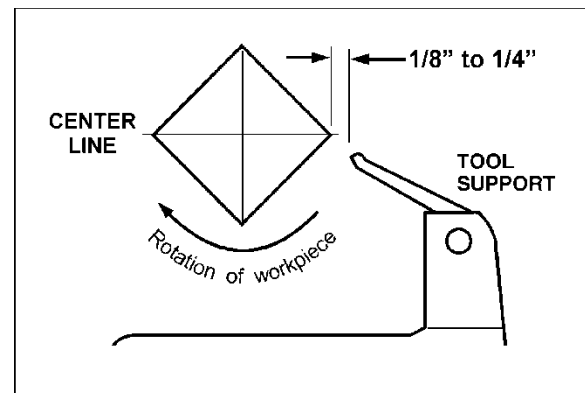

Figure 21
- Move tool support into position. It should be parallel to the workpiece, just below the centerline and approximately 1/8" to 1/4" from the corners of the workpiece to be turned, as in Figure 21. Tighten support base to Lathe bed.